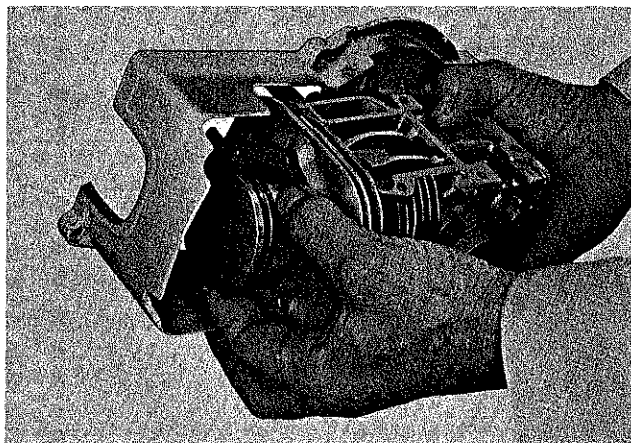

Figure X-4. Removing the piston and connecting rod assemblies from the cylinder.
4. Push the piston assembly and the connecting rod out of the top end of the cylinder. (Figure X-4)